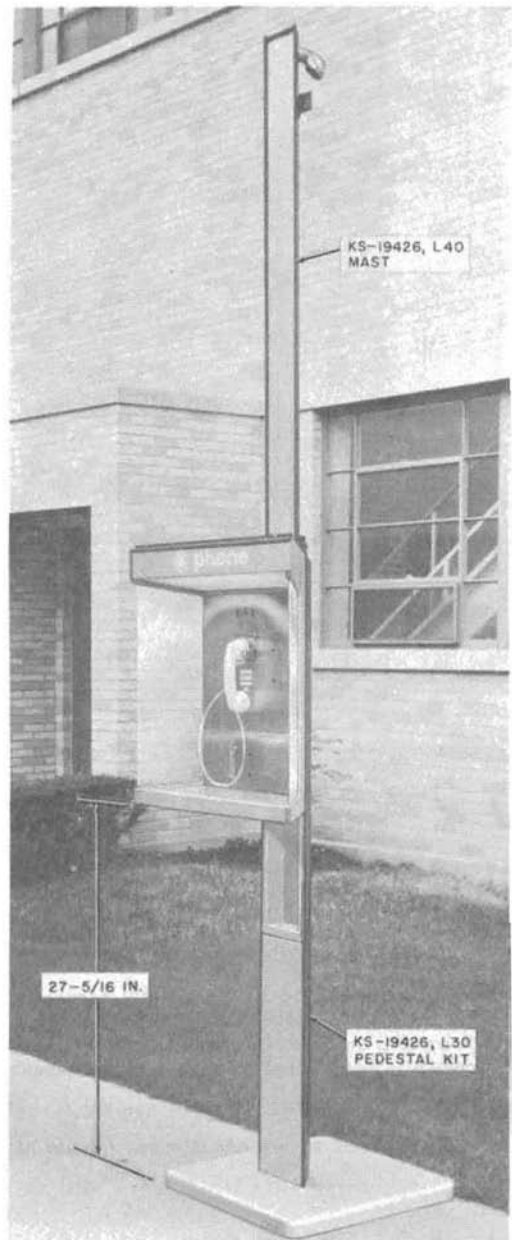

Fig. 3—KS-19426 Mounting for Drive-Up Service with List 40 Mast
- (b) List 40 mast (Fig. 3) for use on outdoor mounting without canopy.